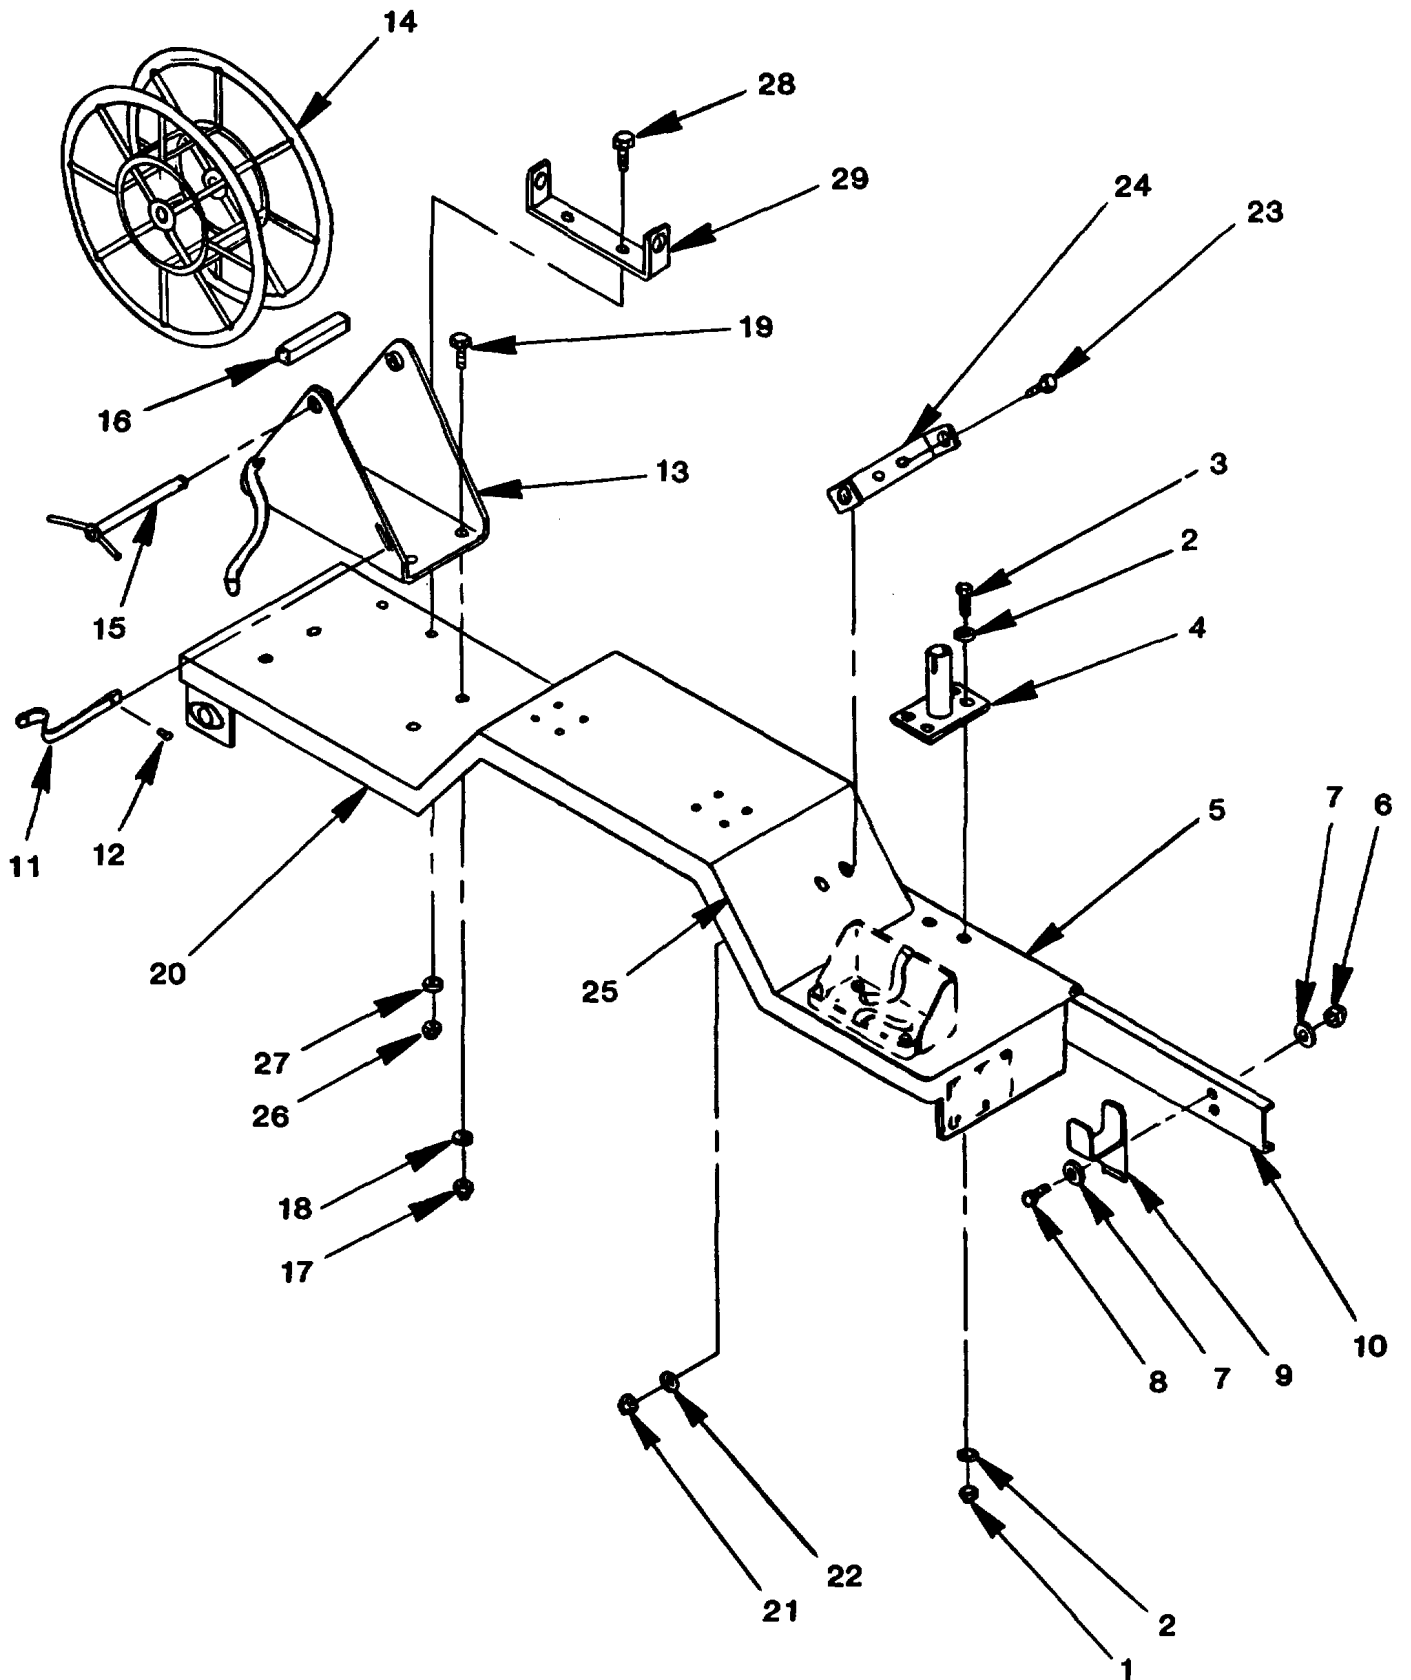

Figure 4-16. AN/MJQ-32, Curbside, Exploded View.
- (1) Remove four locknuts (1, figure 4-16), eight flat washers (2), and four screws (3), securing mast mount (4) to front fender extension.
- (2) Remove mast mount from front fender extension.
- (1) Remove two locknuts (6, figure 4-16), four flat washers (7), and two screws (8), securing mast support (9) to trailer frame (10).
- (2) Remove mast support from trailer frame.
- (1) Remove strapping (11, figure 4-16) by removing rivet (12) holding strapping to cable-reel bracket (13).
- (2) Route one end of new strapping (11) through cable-reel bracket (13) slot and loop the strap end.
- (3) Connect looped end with rivet (12).
- (1) Loosen strapping (11, figure 4-16) and remove from cable reel (14).
- (2) Remove cable-reel from bracket (13) by loosening hold-down assembly (15) and removing assembly. Remove sleeving (16) from inside of cable reel.
- (3) Remove four locknuts (17), flat washers (18), and screws (19) securing bracket (13) to rear fender extension (20).
- (4) Remove cable-reel bracket from rear fender extension.
- (1) Remove two locknuts (21, figure 4-16), flat washers (22), and screws (23) securing spout bracket (24) to front section of fender (25).
- (2) Remove bracket from fender.
- (1) Remove two locknuts (26, figure 4-16), flat washers (27), and screws (28) securing holder (29) to curbside section of rear fender extension (20).
- (2) Remove holder from fender extension.